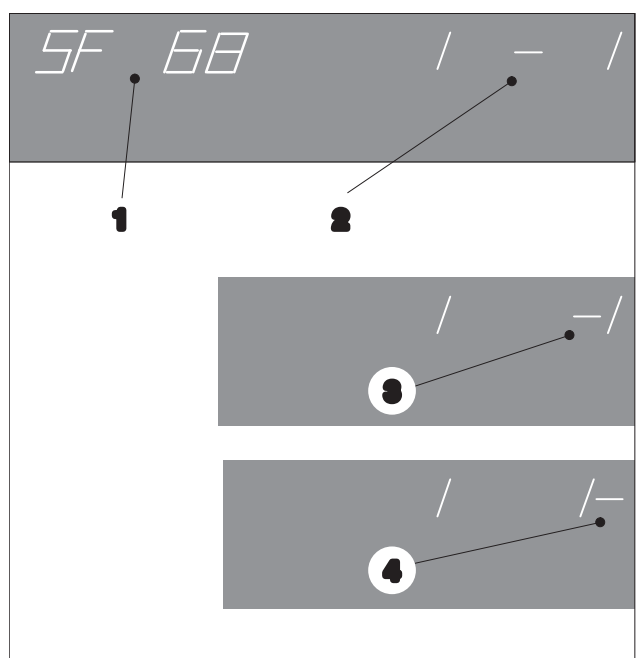

Fig. 25 SF 68: *Sheet arrival*
The display shows the number of the special function (Fig. 25/1) and by a horizontal line schematically the location of the sheets within the area (Fig. 25/2).
- Sheet inside the good sheet area (Fig. 25/2),
- Sheet inside the good sheet area (Fig. 25/3) in the rear area,
- Sheet outside the good sheet area (Fig. 25/4).